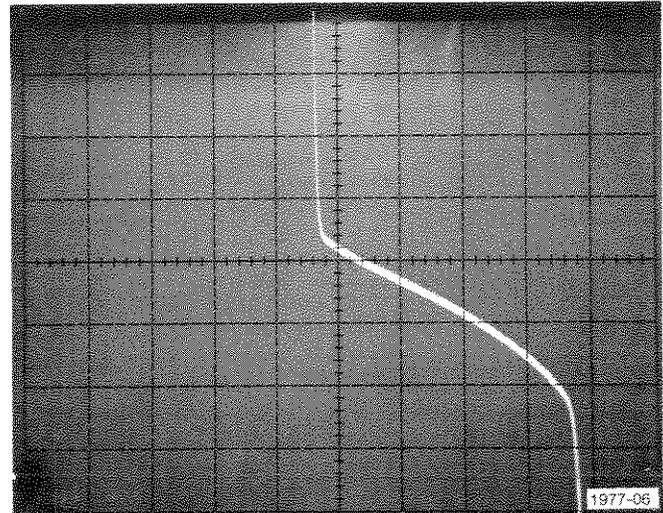

Fig. A-6. Display of input common mode rejection ratio and common mode range.
a. Increase the SWEEP AMPLITUDE setting until the display indicates maximum swing of common-mode voltage (see Fig. A-6).